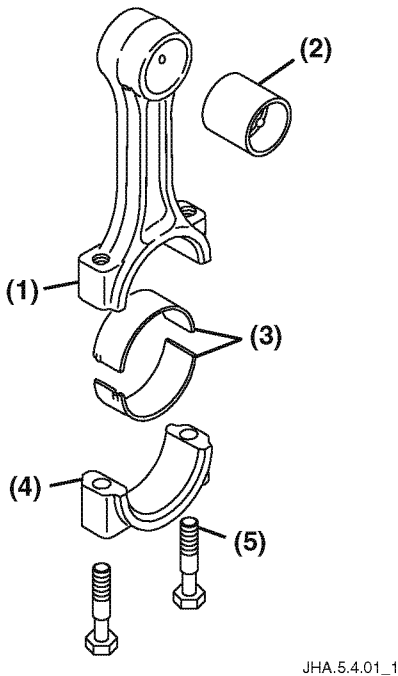

Figure 5-38
The connecting rods (Figure 5-38, (1)) are made of high-strength forged carbon steel. The connecting rods are equipped with a connecting rod cap (Figure 5-38, (4)) and a 2-piece bearing insert assembly (Figure 5-38, (3)). The piston pin bushing (Figure 5-38, (2)) is non-serviceable.